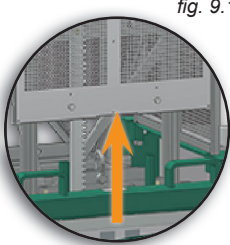

fig. 9.15
- 3- Lift the mast guard to remove it (fig. 9.15, p. 110) and store it properly.